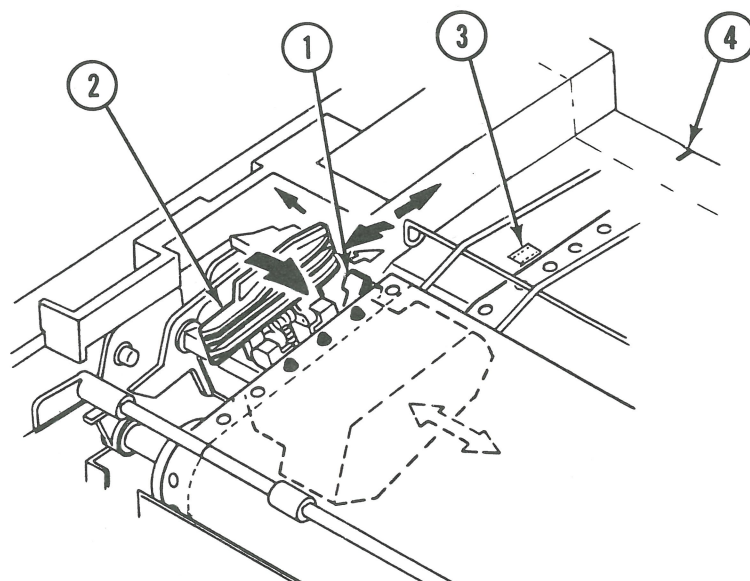

FIGURE 7
7. Load the paper onto the tractor pins (see Figure 7).
- a) Push both the right and left blue tractor levers (Figure 7, #1) toward the back of the printer to release the tractors.
- b) Pull open the left (Figure 7, #2) and right paper clamps.
- d) Locate the pin-feed alignment icon (Figure 7, #3) toward the rear of the printer case, and the pin-feed alignment notch (Figure 7, #4) at the back edge of the printer. Slide the left tractor until the paper edge aligns with the icon groove and the notch.